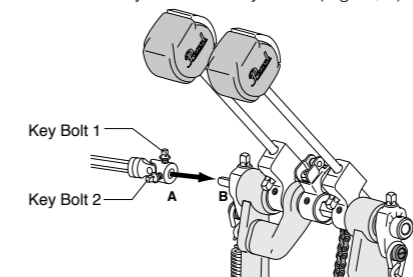

Fig.8
Connect the ends of the Drive Shaft (A) to the short extensions (B) on the Main and Slave Side Pedals. You may need to rotate the Hexagonal Axle on the Slave Side Pedal to bring the footboard of the Slave Side (left) Pedal to the proper playing height (angle) before attaching the Drive Shaft Joints (A) to both pedals. Tighten Key Bolt 1 with the provided Drum Key and then Key Bolt 2 (Figs.8, 9).